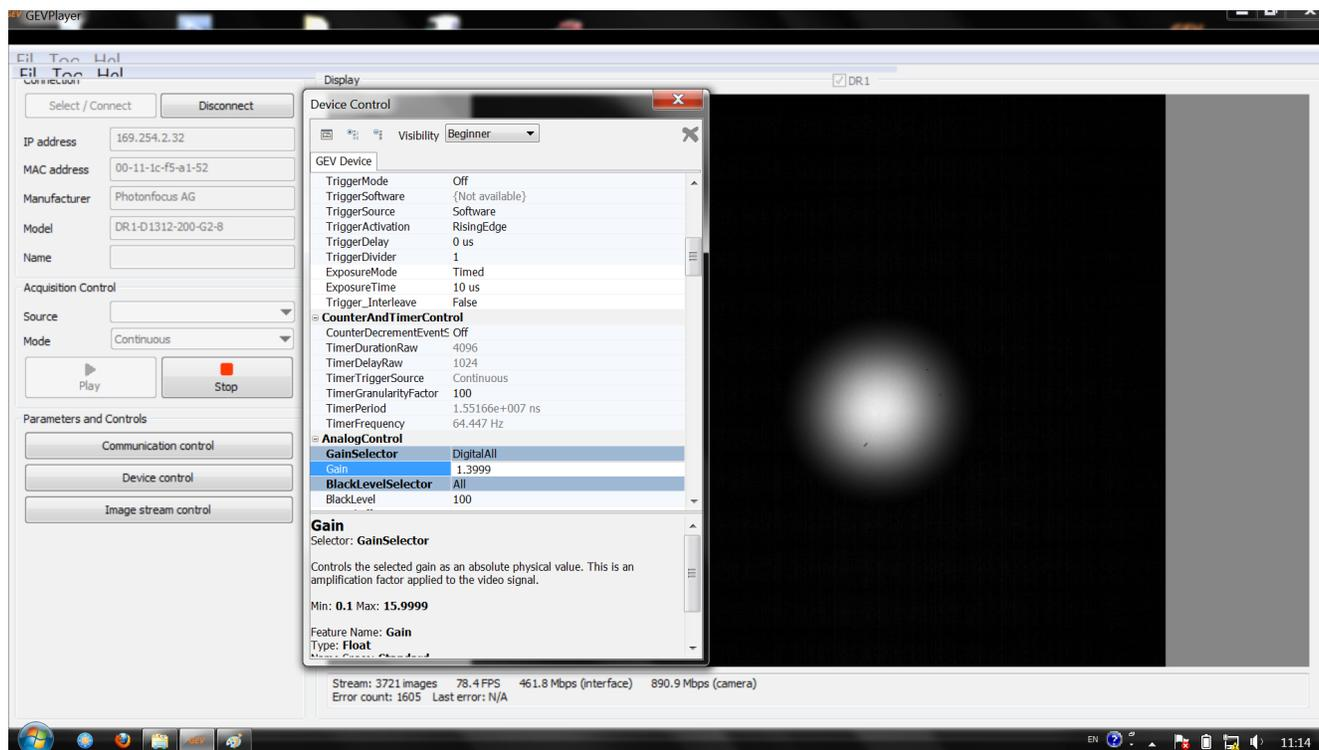

Fig 3. PF Gev offers the possibility to see the camera image in real time and set all device parameters
3. Parameters, that are set by the **PF Gev software**. (see fig 3, 4). These parameters are stored in camera memory until the camera is switched off. It is typically no need to change these parameters. Detailed description of all parameters are in PF Gev documentation.